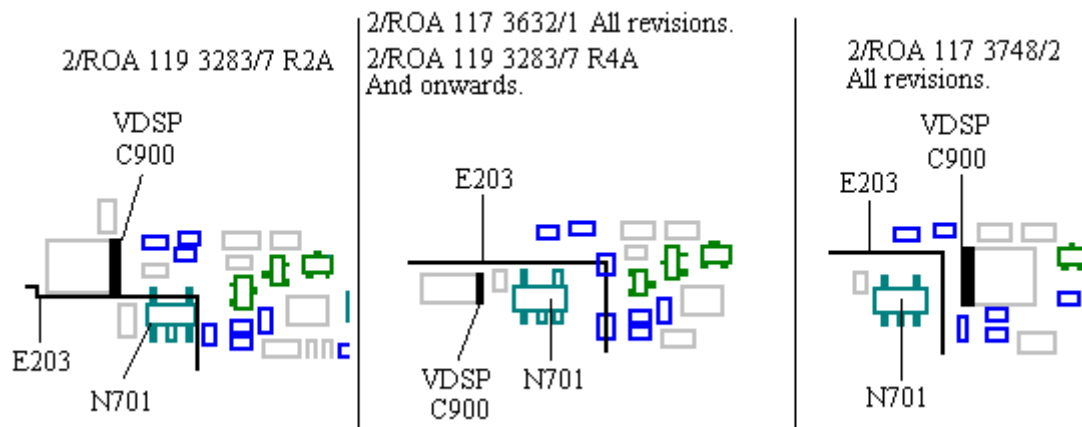

Fig. 9.6
Measure the VDSP (~3.2V) feed voltage. Fig. 9.6 shows the measuring point for VDSP. The figure shows three possible placements of the VDSP regulator.
- If the VDSP voltage is too low, replace N701 (class A, fig. 9.6). The N701 circuit can only be replaced at 2/ROA 119 3283/7 R2A boards. At the other boards the circuit is placed under the DSP shielding (E203). If that's the case, send the phone to the next level.